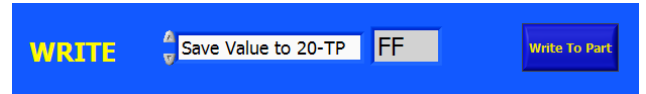

Figure 5. Save Value to 20-TP Option (the Display Is in Hex Format)
- **Save Value To 20-TP**—saves into the 20-TP memory the value that is shown in the display (see Figure 5). It is necessary to click **Write To Part** to write to the part.